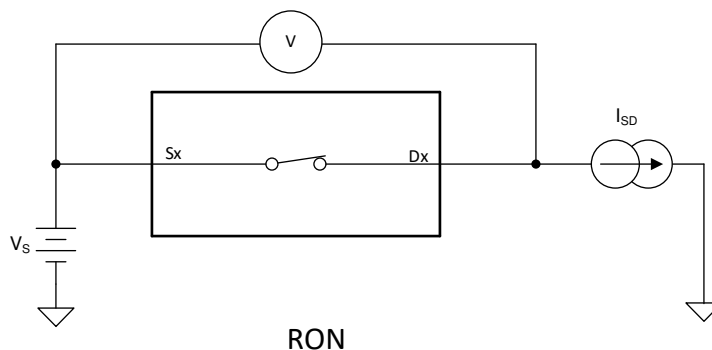

Figure 14-1. On-Resistance Measurement Setup
The on-resistance of a device is the ohmic resistance between the source (Sx) and drain (Dx) pins of the device. The on-resistance varies with input voltage and supply voltage. The symbol R_{ON} is used to denote on-resistance. Figure 14-1 shows the measurement setup used to measure R_{ON} . Voltage (V) and current (I_{SD}) are measured using this setup, and R_{ON} is computed with $R_{ON} = V / I_{SD}$.